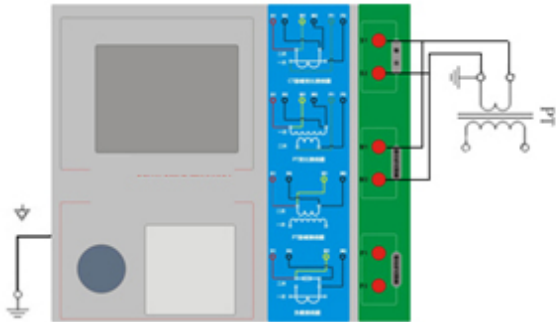
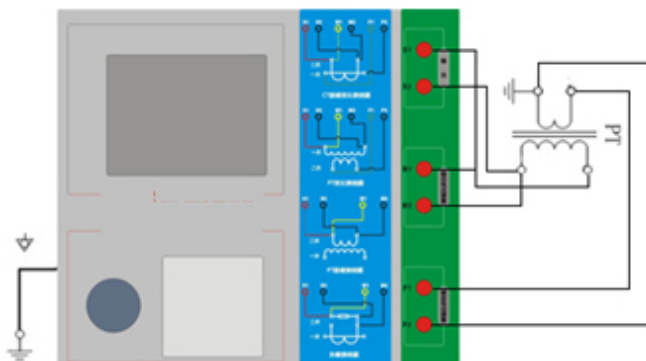

Fig 2.10 PT's DC resistance and excitation
Fig 2.11 PT's ratio and excitation
Step 1. According to PT testing program description of list 2.4, refer to figure 2.10 or figure 2.11 for wiring